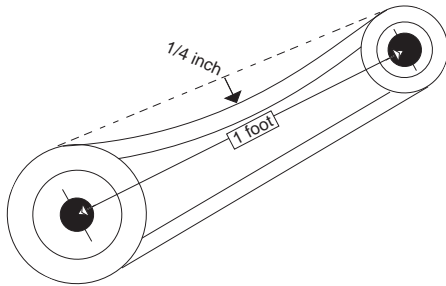

Figure 3
- Slide the motor plate back until proper tension is reached. For proper tension a deflection of approximately 1/4" per foot of center distance should be obtained by firmly pressing the belt. Refer to figure 3.